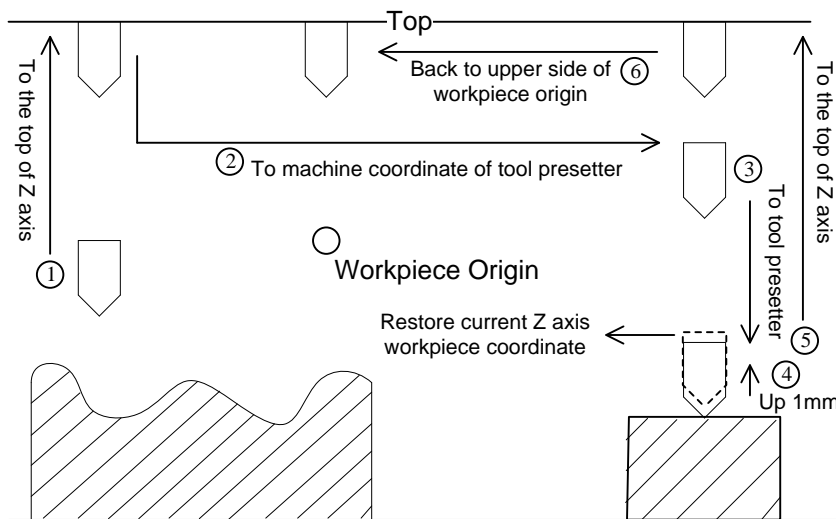

Fig. 3-27 Exchanged Calibration
- 4) After tool change or tool break, press F4 **ToolMea.**, and then press F2 **Exchanged** in the new pop-up manipulation button bar to restore the workpiece coordinate value of Z axis of current point . The process is automatically completed by the system, as shown in Fig. 3-27.